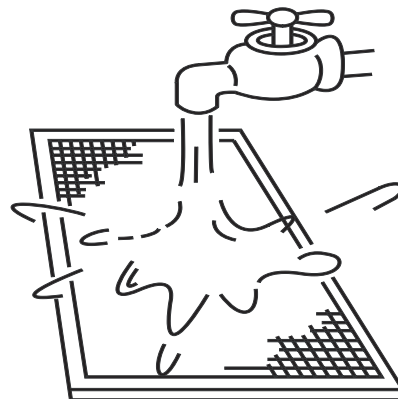

Figure 14.4
- The air-in side should face down when using water. (See Figure 14.4)